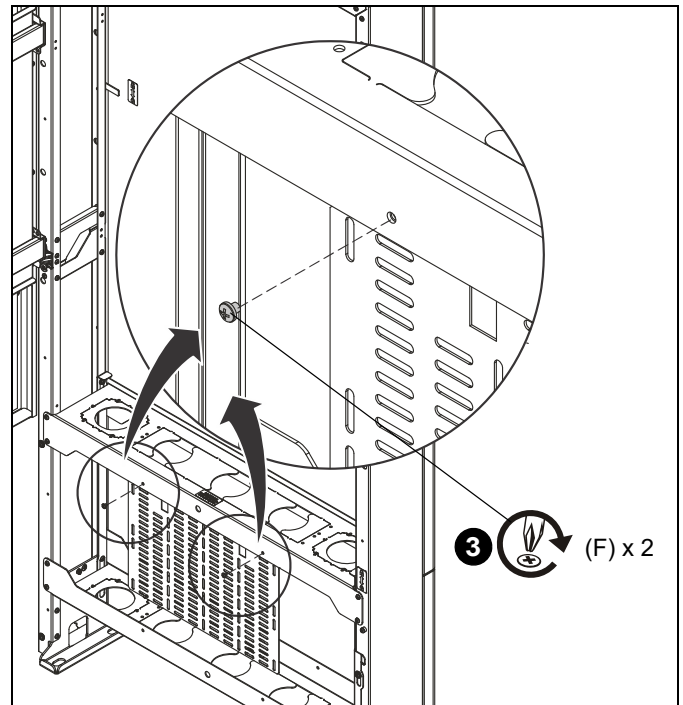

Figure 11
1. Install AV component(s) to the storage panel (C) using the hardware and instructions included with the component(s). Either screws or cable ties may be used to fasten component(s) to the panel.
2. Place storage panel (C) inside the kiosk, lining up the holes in the storage panel with the holes in the lower part of the kiosk. (See Figure 11)
3. Hold storage panel (C) directly behind screw holes and fasten using two 10-24 x 3/16" Phillips screws (F). (See Figure 11)